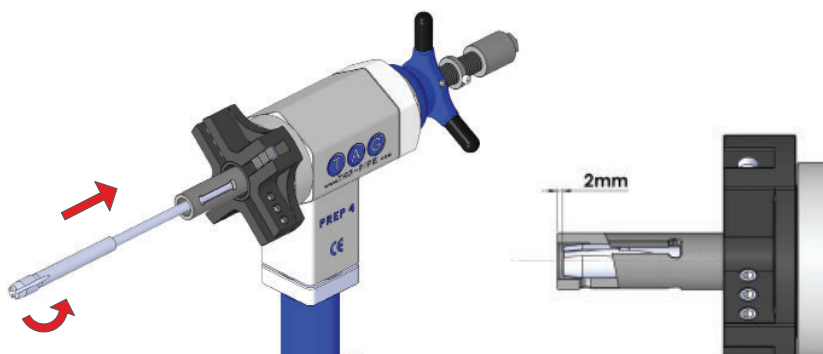

Figure 3-6 Installing the inside shaft
8. Finally, insert the reduced inside shaft. Use long nose pliers to screw the inside shaft (reverse threaded) anti-clockwise until it is positioned 2 mm from the end of the outside shaft as shown in Figure 3-6.